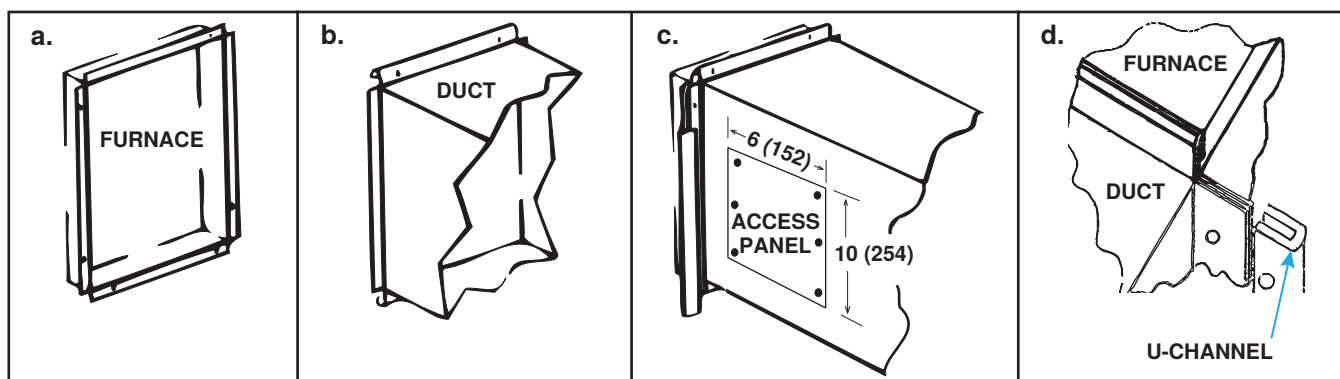

Figure 6. Connecting Ductwork to Furnace
- **Supply air duct/furnace horizontal connection:** Connect the duct to the furnace in accordance with the following steps shown in Figure 6:
- **Access panels:** Install removable access panels (see Figure 6) on both the upstream and downstream sides of the furnace. The access panels must be accessible when the furnace is in service and should be a minimum of 6 × 10 inches (152 × 254 mm) in size so smoke or reflected light may be observed inside the casing to indicate the presence of leaks in the heat exchanger. Ensure that the access panels are installed in such a manner so as to prevent leakage.